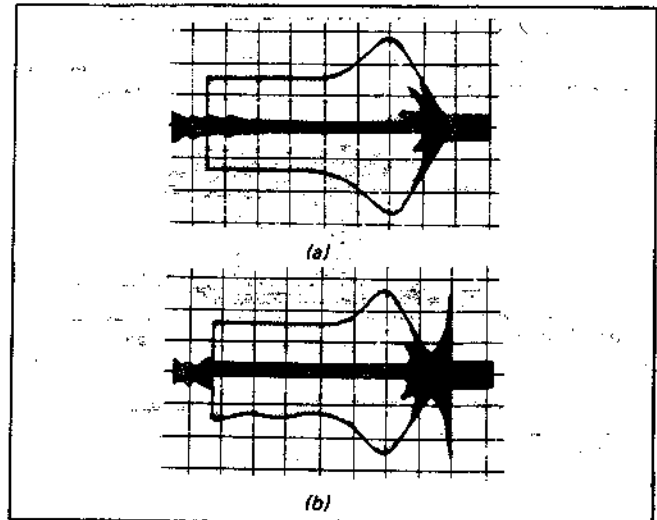

Fig. 4-11.
- 5) At this time, confirm that the exit free waveform is within the range shown in Fig. 4-11(a) and (b).